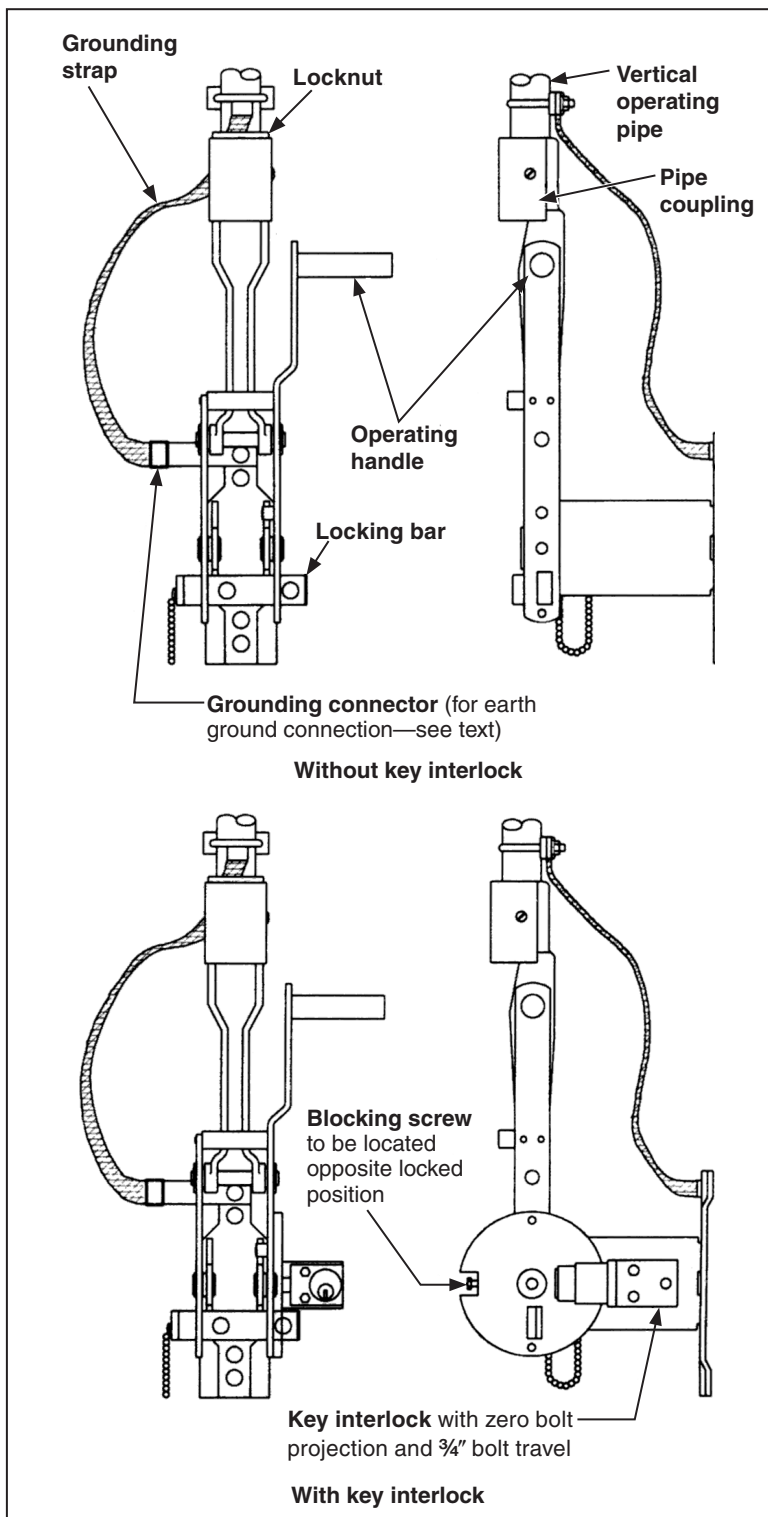

Figure 7. Operating handle assembly.
- b. Install the lower vertical-operating-pipe section by threading one end of the pipe into the coupling on the operating handle. Approximately  $\frac{1}{4}$ -inch of thread should extend through the coupling. See Figure 7. Tighten the locknut. Slip a rod guide onto the pipe and attach the upper end of the pipe to the lowest rigid coupling. Tighten the coupling clamp bolts but do not tighten the associated set screw at this time.
- c. Make sure that the switch poles are fully closed and that the operating handle is held in its closed position by means of the locking bar. See Figure 7.
Use the vertical operating pipe as a plumb line to locate the operating handle radially to the pole—see section D-D on the erection drawing. Then, drill two  $\frac{1}{16}$ -inch diameter holes at the locations indicated on the erection drawing, and mount the handle using  $\frac{5}{8}$ -inch threaded rod or through-bolts (not-furnished). At the same time, use one of the operating-handle mounting bolts to attach one end of the grounding strap (the end with the grounding connector attached) to the handle mounting plate. See Figure 7.
- k. Fasten the free end of the grounding strap to the lowest vertical-operating-pipe section a few inches above the operating-handle assembly with the U-bolt connector provided for this purpose. Then connect the lower end of the strap to a suitable earth ground, using the grounding connector provided at the end of the strap. See Figure 7 on page 15. Proceed to Step 10.